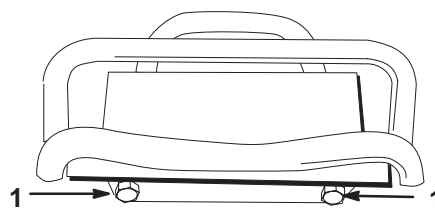

Figure 27
3. If the traction unit veers to the **left**, loosen the the **right** jam nut and adjust the tracking set screw on the front of the traction control (Fig. 27).
4. If the traction unit veers to the **right**, loosen the the **left** jam nut and adjust the tracking set screw on the front of the traction control (Fig. 27).